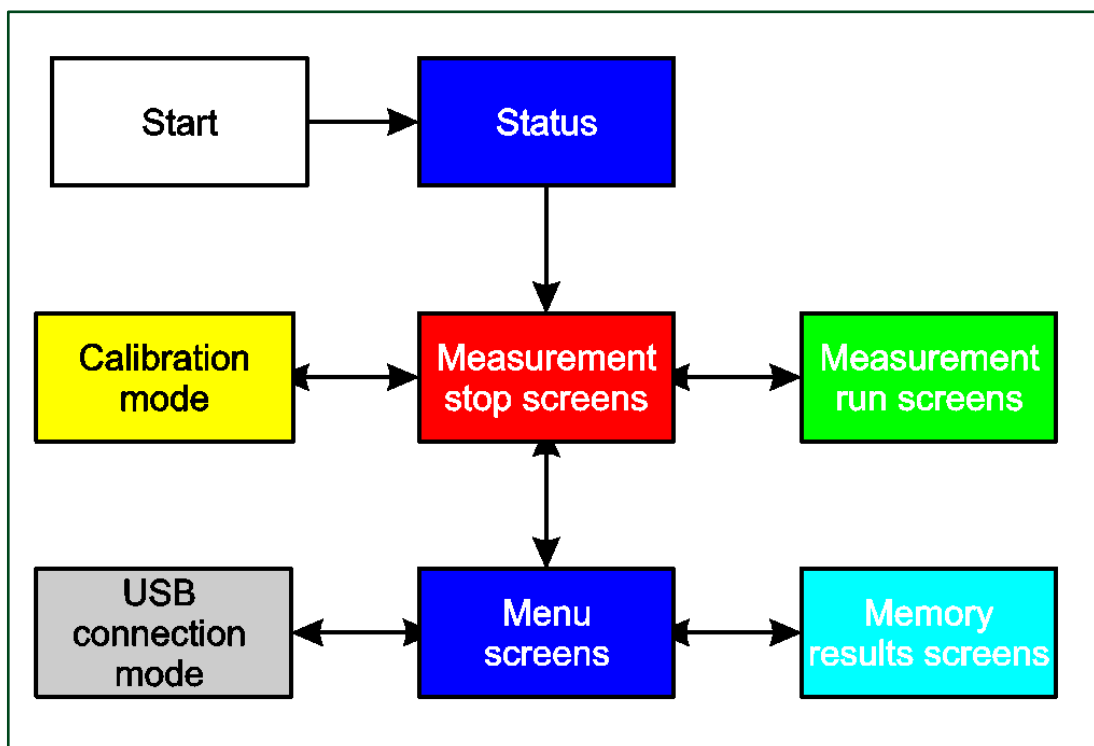

Figure 2
The two soft keys (5) shown in figure 1 are located below the corresponding options displayed at the bottom of each screen. The operation of these two keys change, depending on which screen is displayed as shown by the overview of the operating system in figure 2.